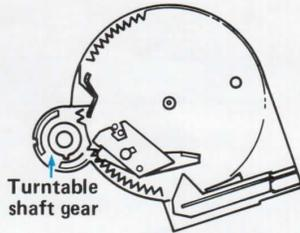

Fig.3
c. Before sliding the turntable platter over the turntable shaft, be sure the turntable shaft gear moves freely as shown in Fig. 3.